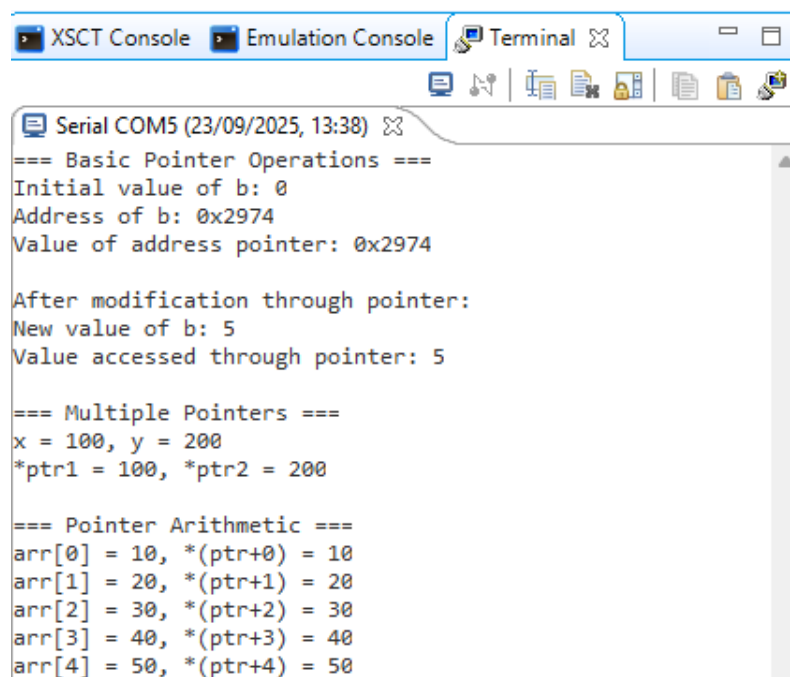

Figure 7
- To view the output and run the application, follow **Section 4 Steps 5-8** of Lab 1 instructions (also illustrated in **Figure 6(a)-(d)**): open the Terminal view, configure the Serial Terminal settings, and set up the run/debug configuration. **Figure 7** shows what the Console should look like when the application is successfully run.